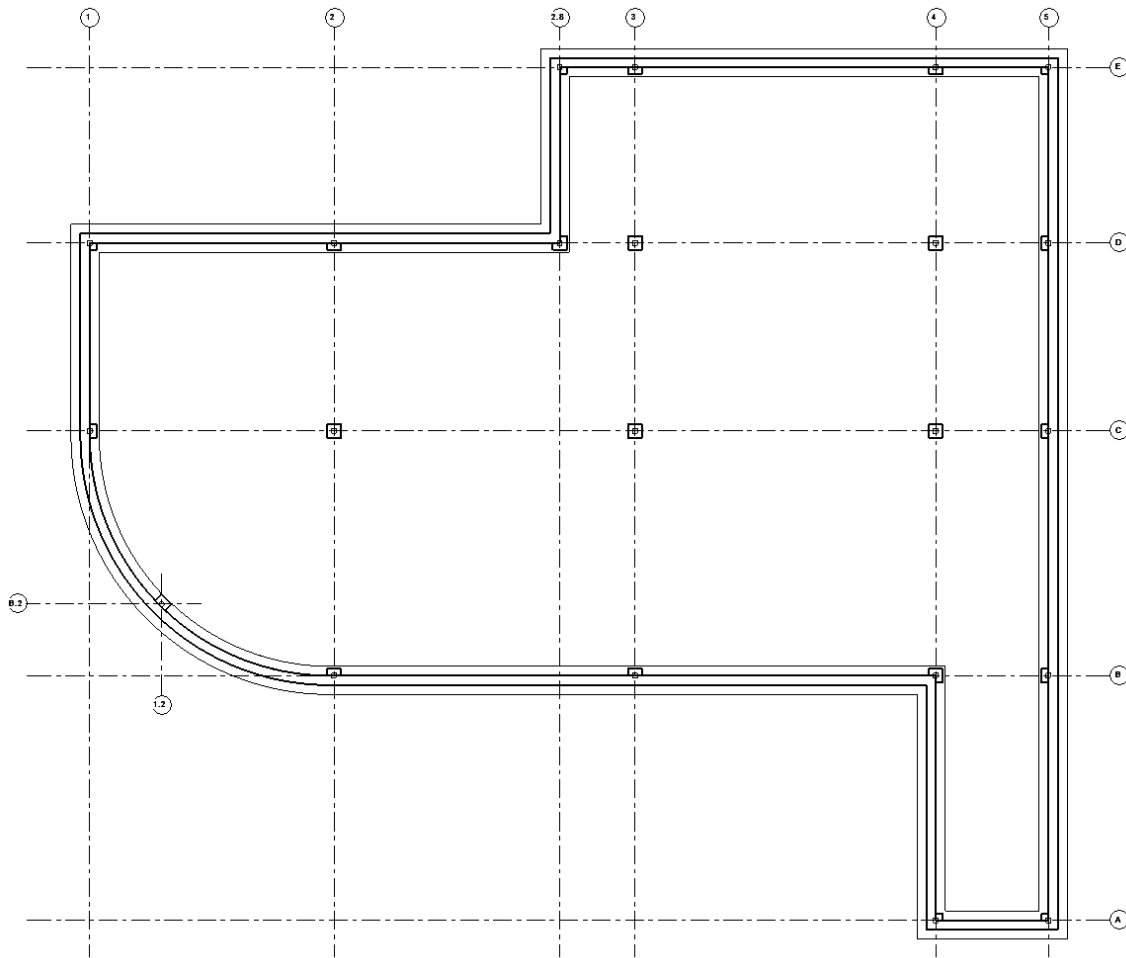

FIGURE 7-5.7 Level 1 slab and foundation plan; footings added
31. Now simply click each foundation wall (Figure 7-5.7).